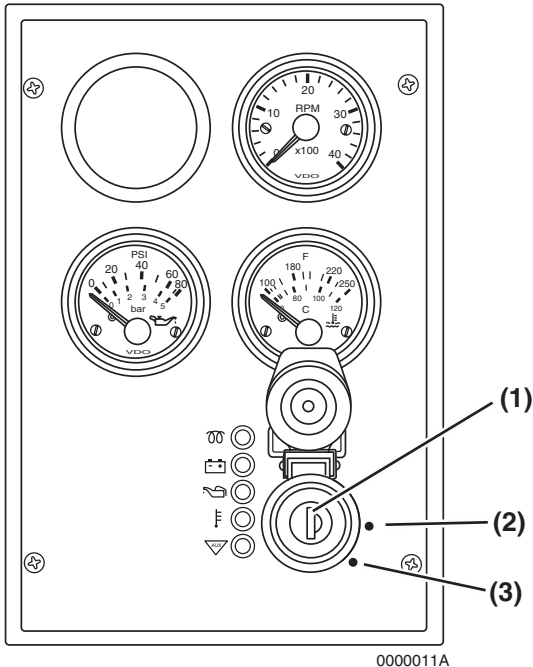

Figure 9
The key switch for the operator's console illustrated in **Figure 9** has three positions - OFF, ON, and START.
OFF (key straight up and down) (**Figure 9, (1)**) - When you turn the key to this position the engine shuts down. Electric current to the gauges and indicators is shut off. You can insert and remove the key in this position.
ON (**Figure 9, (2)**) - This is the position the key will be in when the engine is running. When the engine is not running, use this position to energize the gauges, indicators, electric fuel pump and auxiliary devices.
START (**Figure 9, (3)**) - Turn the key to this position to start the engine. As soon as the engine starts, release the key and it will automatically return to the ON position. Some key switches may be equipped with a feature that prevents you from turning the key to the START position while the engine is running. In these configurations, you cannot turn the key to the START position without first returning the key to the OFF position.